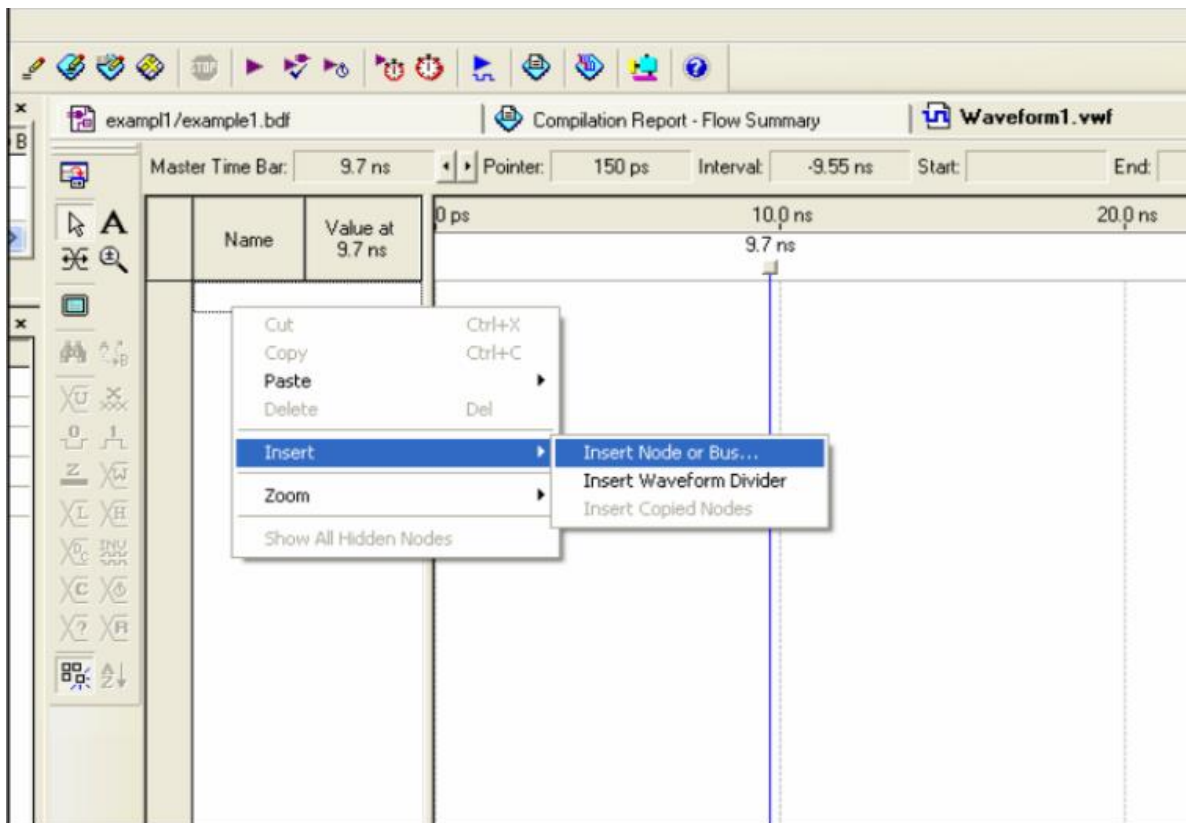

Figure 8.14: insert node or bus.
- Then, from Processing > Simulator Tool, the window in Figure 8.14 will appear: